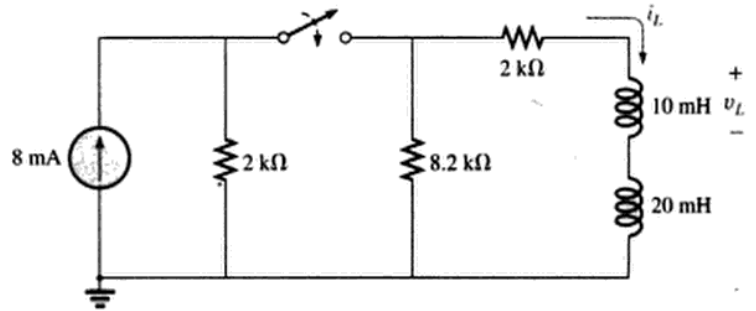

FIG. 11.106
*41. For the network in Fig. 11.106: